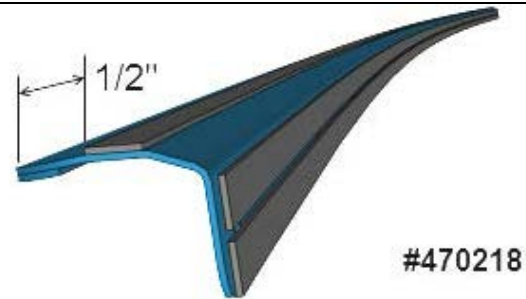

FIGURE 24
4. Apply three strips of double face self-adhesive tape along drip edge #470218 from one end up to the other end. The first strip should be placed about 1/2 inch from the edge as shown on FIGURE 24. The two other strips should be placed on each side of the drilled holes.